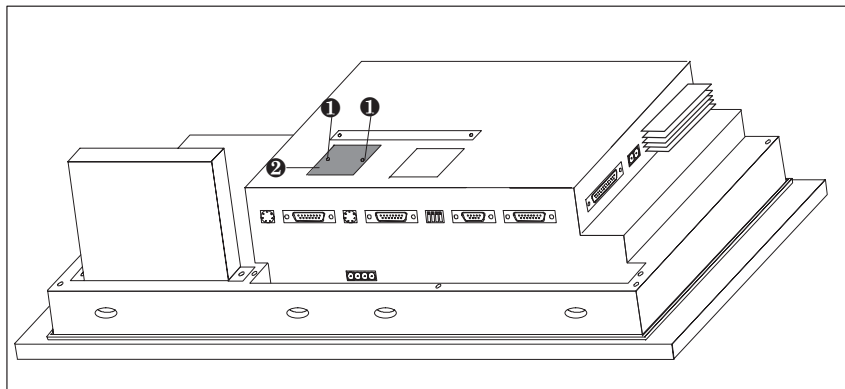

Figure 18-8 Removing the cover (example OP37)
2. Release the two pop rivets ❶ and then remove the cover ❷ indicated in Figure 18-8 from the rear panel of the OP.